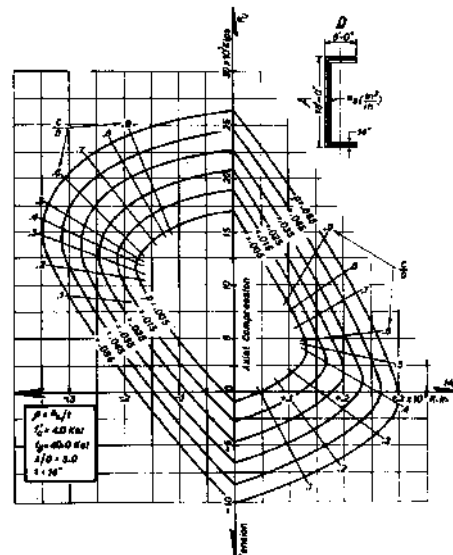
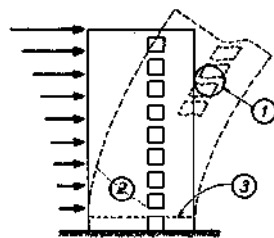

Fig. 9: Axial Force-Moment Interaction Relationship of a Channel Shaped Shear Wall Section
Fig. 11: The Distortions in a Laterally Loaded Coupled Shear Wall
The moment capacity of unsymmetrical wall sections, in the presence of axial load, needs to be assessed for each possible direction of the loading. It is worthwhile to construct a load-moment interactive curve. This enables the selection of appropriate steel at various sections of the wall. Note that there are four quadrants of the P-M curve. Fig. 9 shows such a chart for a channel shaped wall with a section aspect ratio of 3 in which vertical reinforcement is uniformly distributed. The radiating lines C indicate the position of neutral axis from the compression edges as a fraction of depth D of the section. This shows the extent of compression area at the time of attainment of strength. In this region confining reinforcement is required.
Many shear walls contain one or more rows of openings. Examples are shear cores, lift wells, stair wells etc. The walls are connected by beams which are short and deep. An realized shear wall structure and its deformations due to lateral loading is shown in Fig.11
At the critical section above foundation level, the reinforcement is determined with the help of load moment-interaction curves such as that given in Fig.9. The confining reinforcement in the plastic hinge zone which may extend even beyond the first storey level has to be provided. Particular attention must be paid to the shear strength in the pressure of axial tension in the wall as well as presence of construction joint. These areas are indicated as 2 and 3 in Fig.11. There is evidence (10) that at the development of plastic hinge in the coupled walls substantial redistribution of the shear resistance occurs. A considerable portion of shear force resisted by tension wall before the onset of extensive yielding in flexural reinforcement may be transferred to the compression wall. The compression wall can transmit this large shear force due to enormous seismic compression being transferred by it.